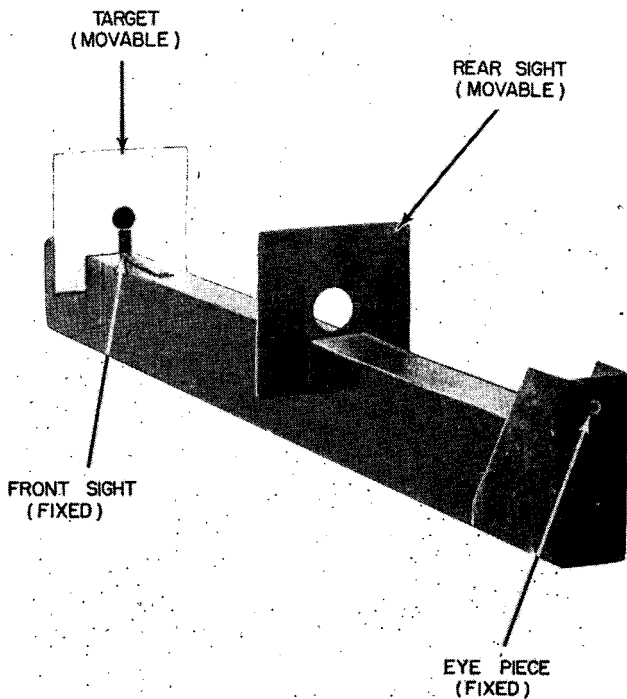

Figure 60. The sighting and aiming bar.
a. The sighting and aiming bar (fig. 60) is used for this exercise. The front and rear sights